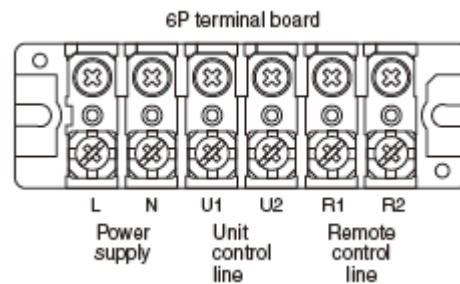

Fig.9-2
- (2) The basic connection diagram of the indoor unit shows the terminal boards, so the terminal boards in your equipment may differ from the diagram.(Fig.9-2)
- (3) Refrigerant Circuit (R.C.) address should be set before turning the power on.
- (4) Regarding R.C. address setting, refer to the installation instructions supplied with the remote controller unit(optional). Auto address setting can be executed by remote controller automatically. Refer to the installation instructions supplied with the remote controller unit(optional).